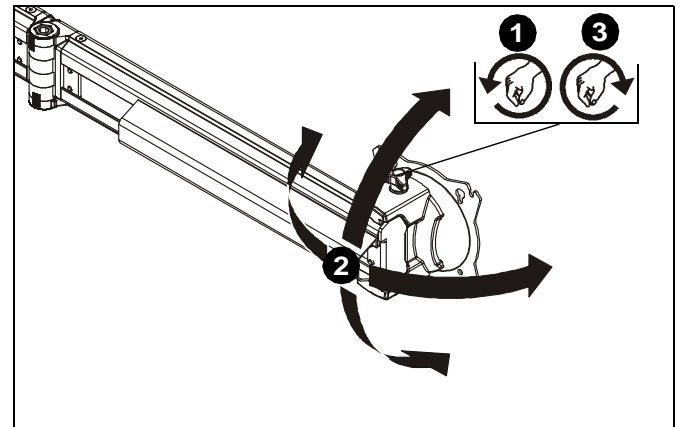

Figure 23
1. Loosen knob on top of faceplate assembly. (See Figure 23)
2. Adjust pitch, roll and/or yaw as desired. (See Figure 23)
3. Tighten knob to secure desired faceplate position. (See Figure 23)